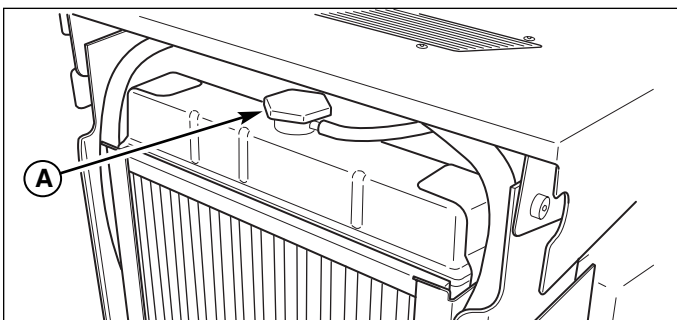

Figure 7. Check Antifreeze Level
1. Remove the radiator pressure cap (A, Figure 7) to check the fluid level.